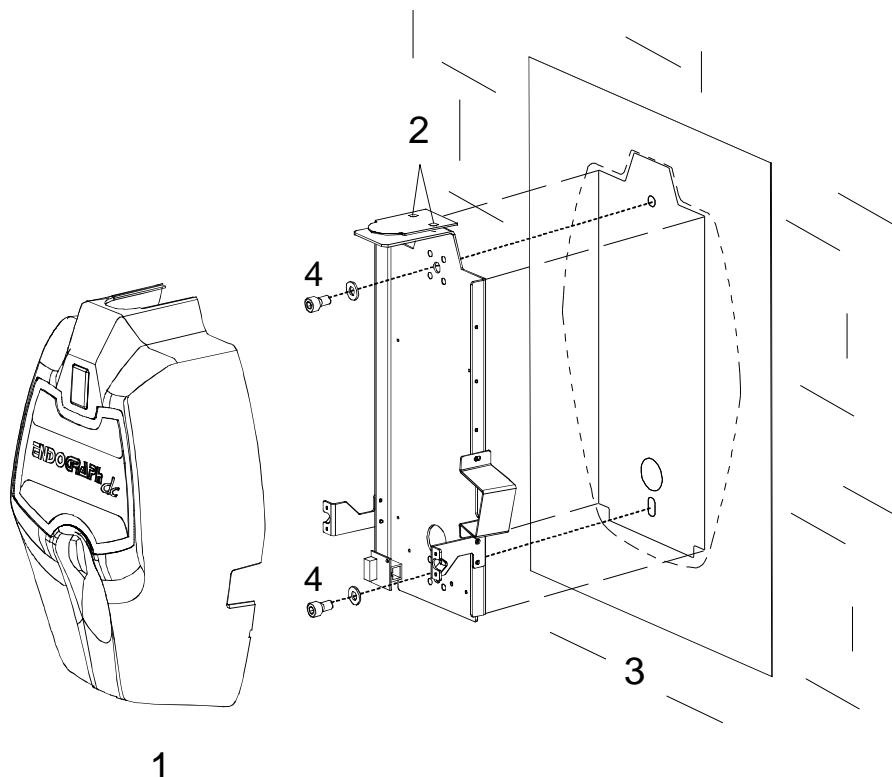
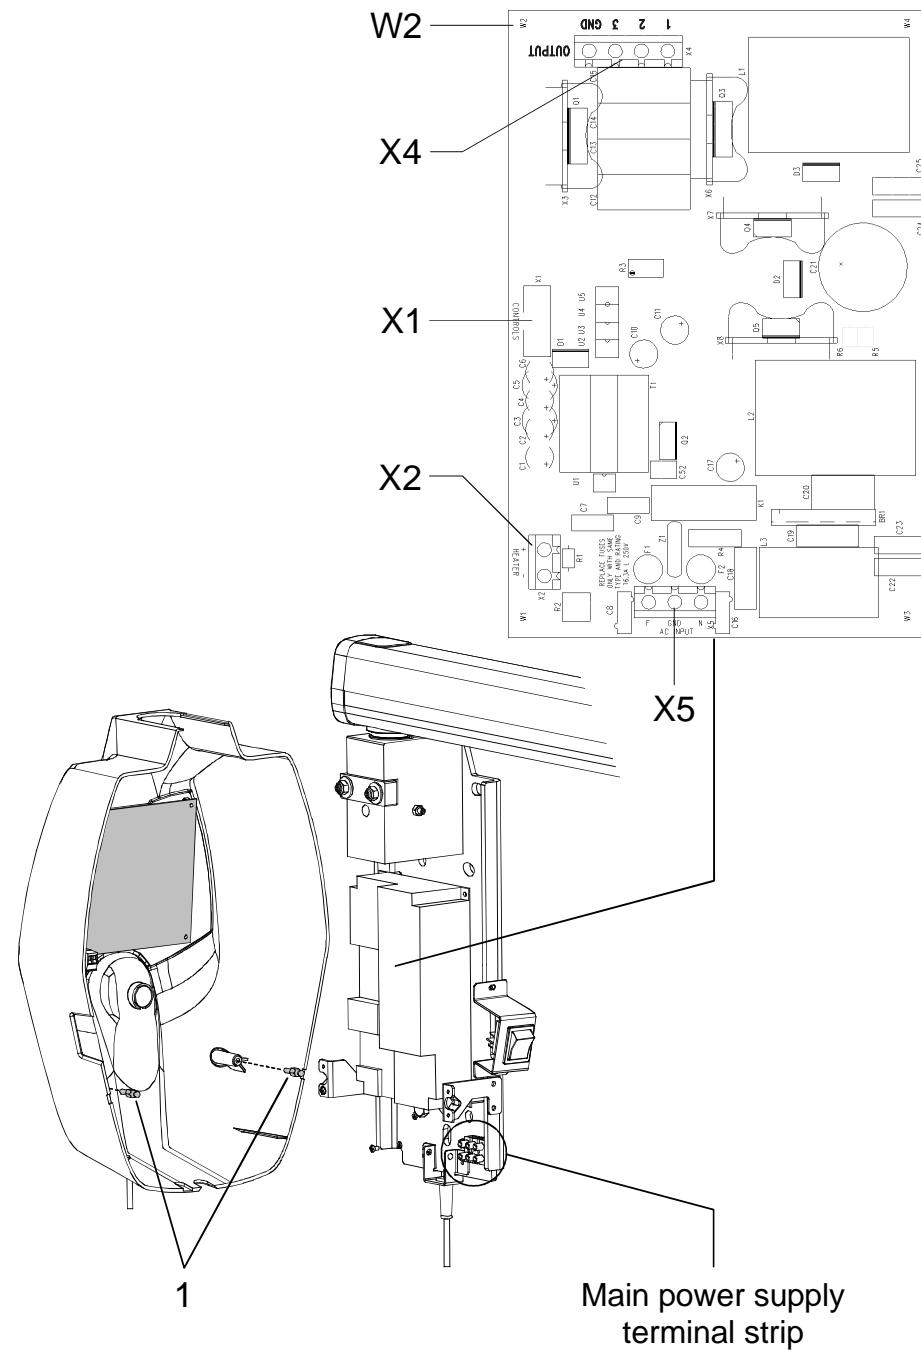
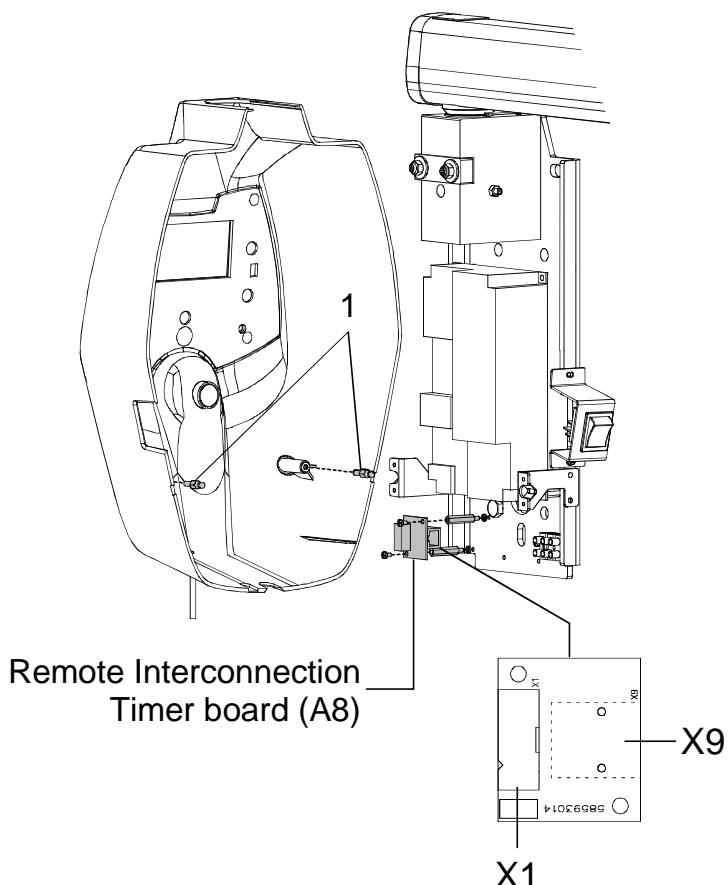

Figure 6-18
Figure 6-19
Figure 6-20
- 1 To be sure that the equipment is in the correct position we recommend you put the provided template code 39599101 (3 - Figure 6-18) in the requested position, in this way identifying the requested wall-mounting position. Considering the overall dimensions of the equipment, put the top part of the template at 1450 mm from the floor.
- 3 Remove the plastic timer cover (1 - Figure 6-18) by loosening the two sealing screws (2 - Figure 6-18) placed on the top part.
- 4 Fix the timer to the wall using the provided screws (4 - Figure 6-18) verifying its perpendicularity with the wall accordingly to both axis.
4. Assemble the two pins lock (1 - Figure 6-19) on the timer cover; these pins (code 2100511300) are included in the mounting hardware packaging.
3. Assemble the Remote Interconnection Timer board (A8), included in the Remote Timer box, on the timer as shown in Figure 6-20.
4. Connect the flat cable, supplied with the Remote Timer box, between Driver board – connector X1 (Figure 6-19) – and A8 board – connector X1 (Figure 6-20).
5. Connect the RJ 45 cable to the A8 board – connector X9 (Figure 6-20).
6. Assemble the two pins lock (1 - Figure 6-20) on the Remote Timer cover (1 - Figure 6-18); these pins (code 2100511300) are included in the mounting hardware packaging.